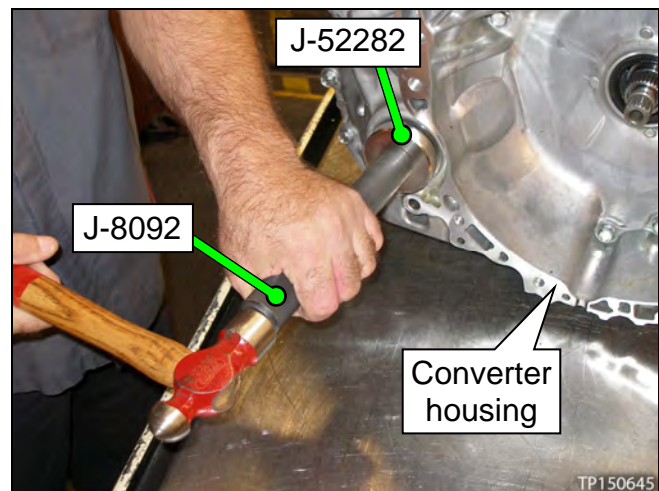

Figure 2I
2. Install the torque converter housing side axle seal (Figure 2I).